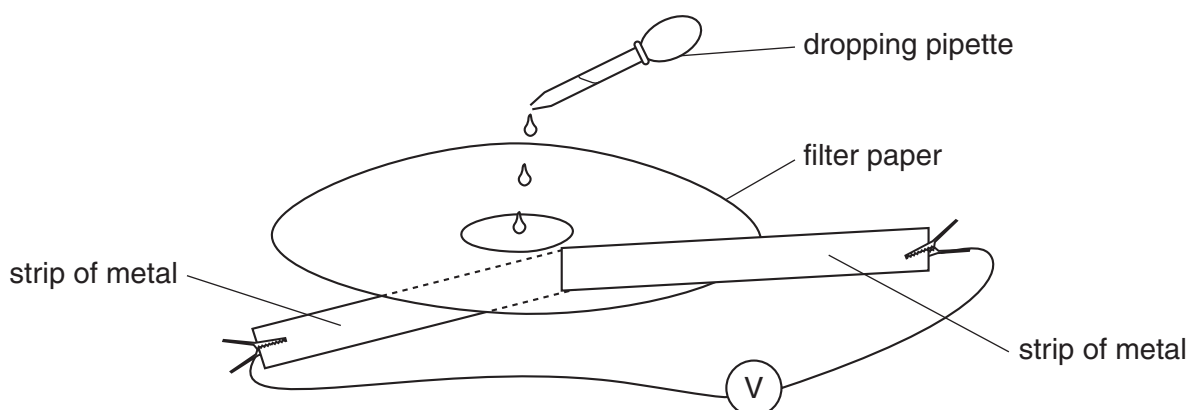

Fig. 3.1
- Press the piece of zinc down onto the wet filter paper above the magnesium strip. See Fig. 3.1.